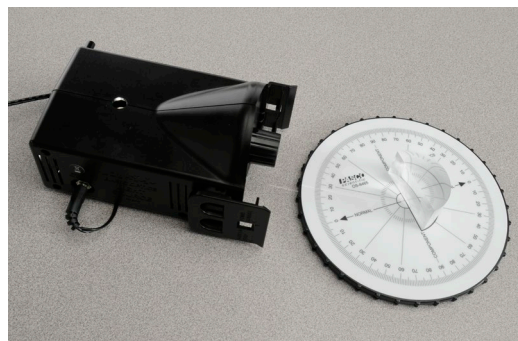

Figure 2: Ray Table Setup
4. Place the light source on the lab bench so that the front of it is as close to the ray table as possible without touching it, and the ray of light is incident on the center of the flat side of the D-shaped lens (similar to Figure 2).